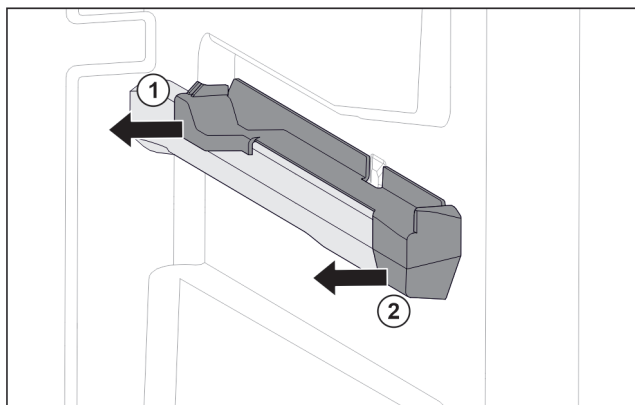

Fig. 61 Attachment on the right moulded rib
- Pull off attachment at the back sideways. Fig. 61 (1)
- Pull off attachment at the front sideways. Fig. 61 (2)